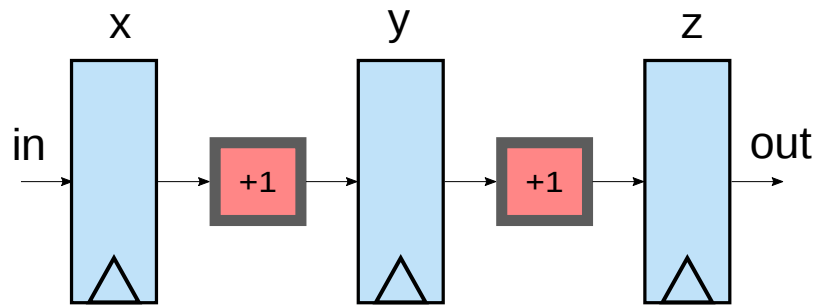

Figure 3: 3-stage pipeline of incrementers.
**Pipeline example** The best way to distinguish non-blocking and blocking assignments is through an example. In ECE429, you will be designing a pipelined processor; hence, knowing how to use Verilog to create pipelines is essential. To illustrate **non-blocking** versus **blocking**, we will design a 3-stage pipeline of incrementers as shown in Figure 3.
Listing 14 shows an implementation of the `non-blocking` module that implements the pipeline shown in Figure 3, and the terminal output of the simulation (below the dotted line).